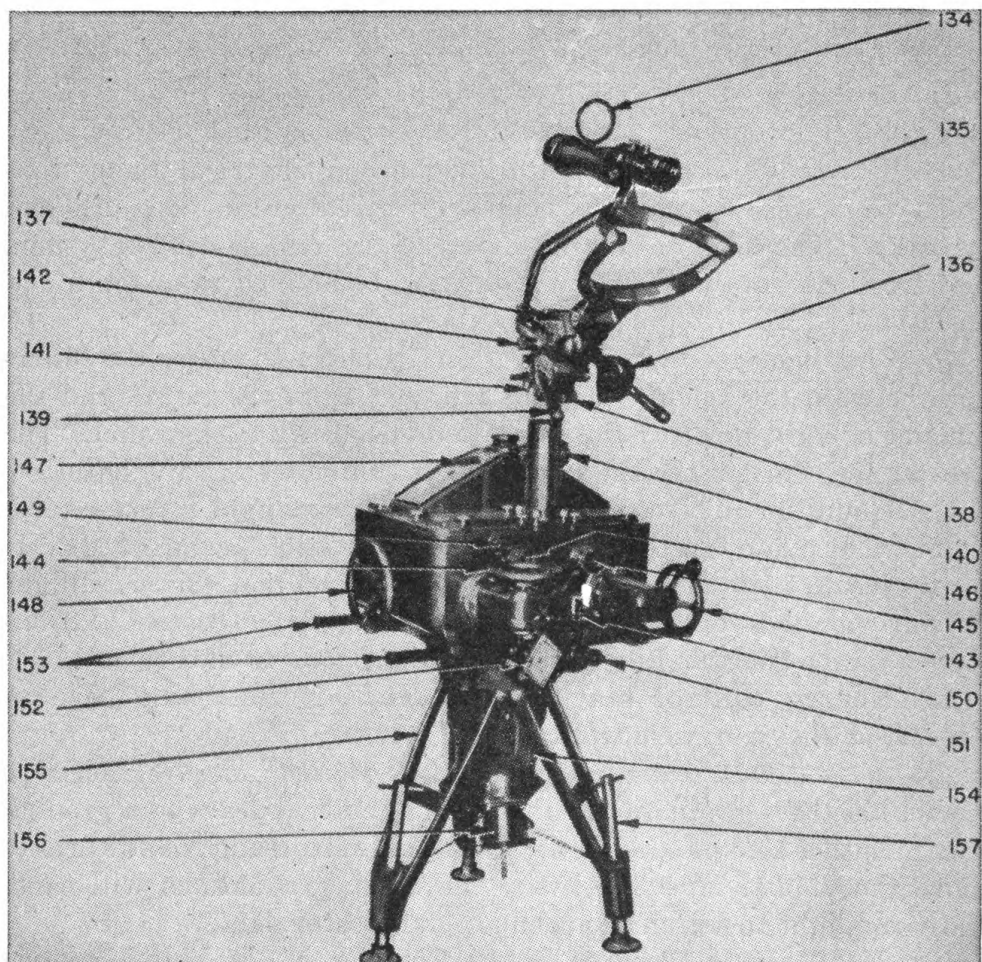

FIGURE 126.—Sperry M1941 control station (binocular mount in position).
*Q.* Name and give the functions of the various parts of the control station with which your organization is equipped. *A.* See figures 126 to 129, inclusive.
135. Binocular mount.....	See figure 126.
140. Binocular height adjusting knob.	See figure 126.
141. Binocular mount azimuth slip clutch.	See figure 126.
143. Observer's elevation hand-wheel.	See figure 126.
144. Observer's azimuth hand-wheel.	See figure 126.
151. D-c switch.....	See figure 126.
154. Handhole cover plate.....	See figure 126.
156. Fifteen-point cable receptacle.	See figure 126.
157. Leveling jacks.....	See figure 126.